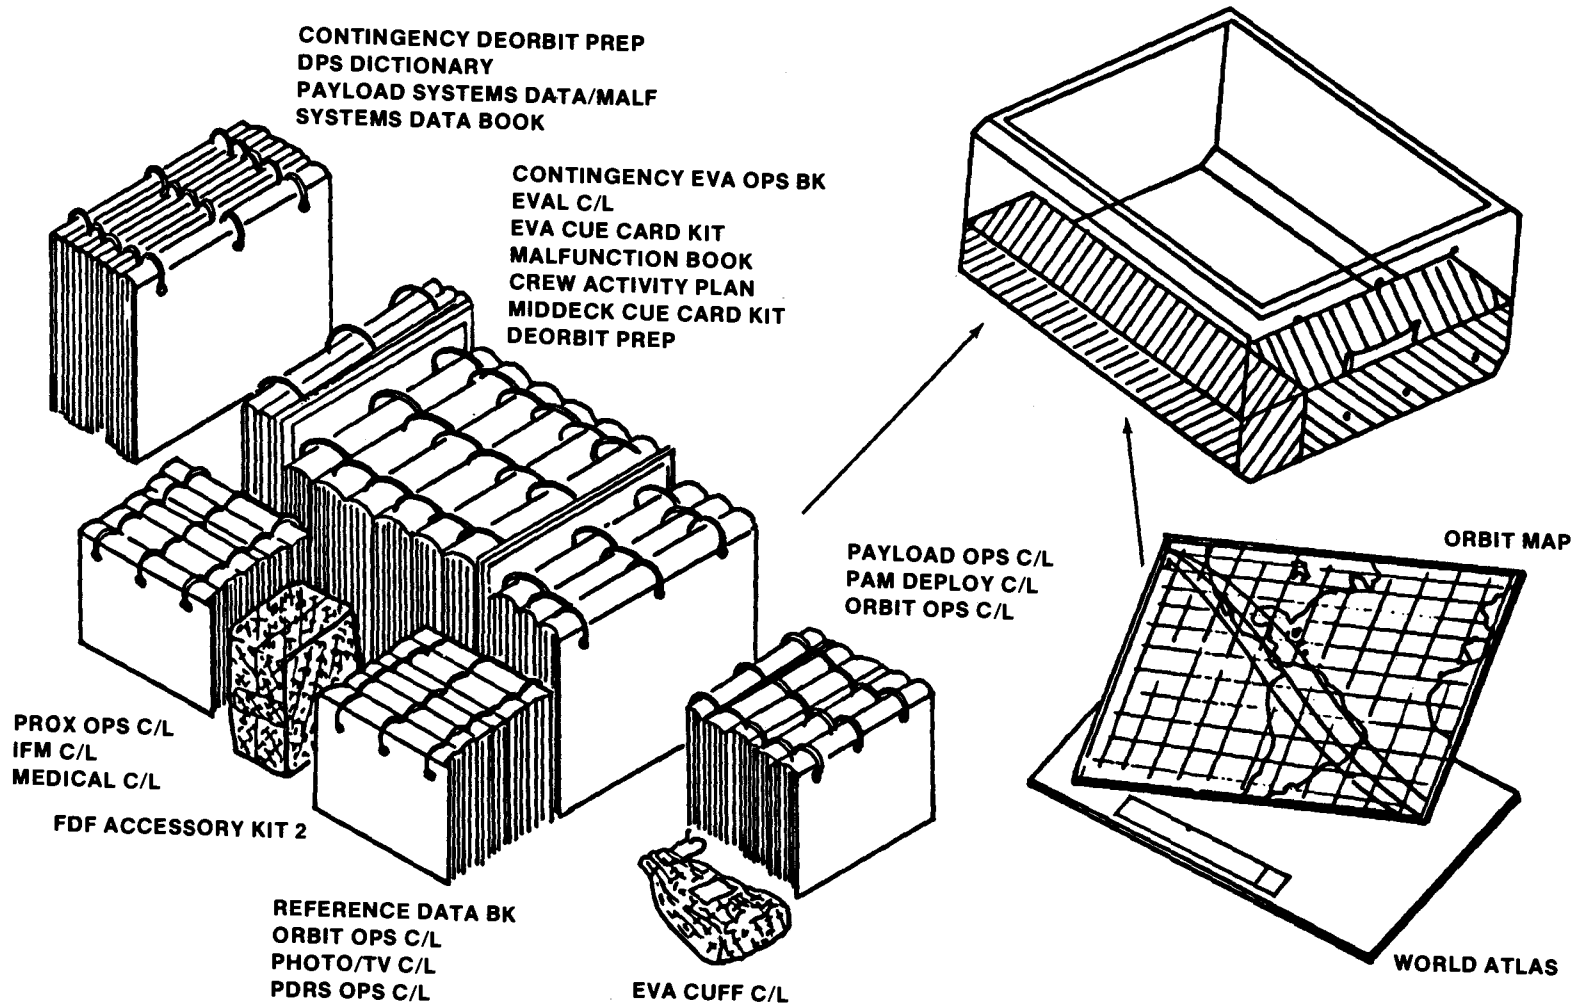

Figure 3.2-1.- Representative middeck FDF locker.
- Middeck FDF locker (fig. 3.2-1)